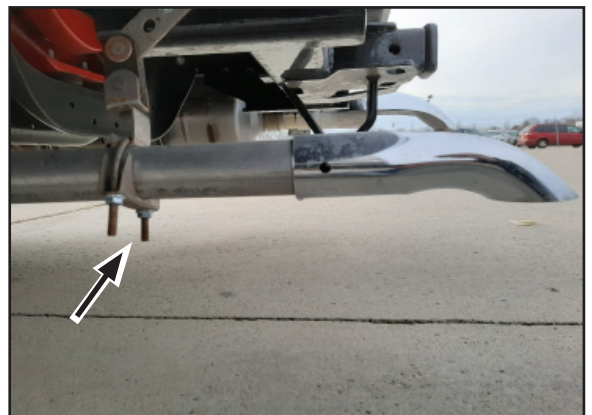

Figure 6
6. Remove the Aqua-Hot exhaust pipe's clamp fasteners from the hanger bracket, installed near the exhaust outlet. Set the clamp and its fasteners aside for later reinstallation. See Figure 6.